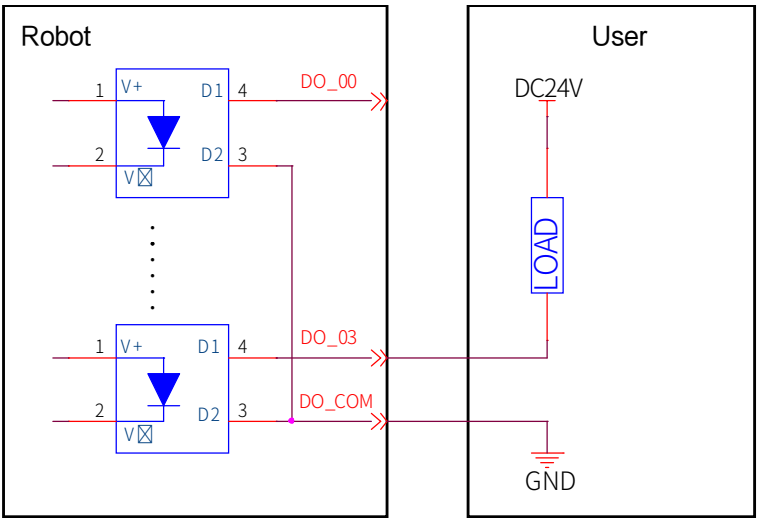

Figure 6-8 PNP output wiring diagram
- Connect the DO_COM end to the negative terminal of the power supply, as shown in Figure 6-8